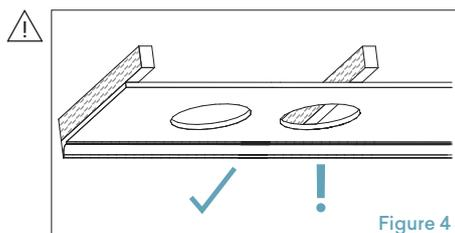

Figure 4
- To determine the best location for your loudspeakers, refer to page 3 of this manual and discuss with your local Krix distributor, or installation consultant. Be sure to check for any obstructions, such as electrical wiring, plumbing, stud work or air conditioning ducts before commencing the installation (figure 4).